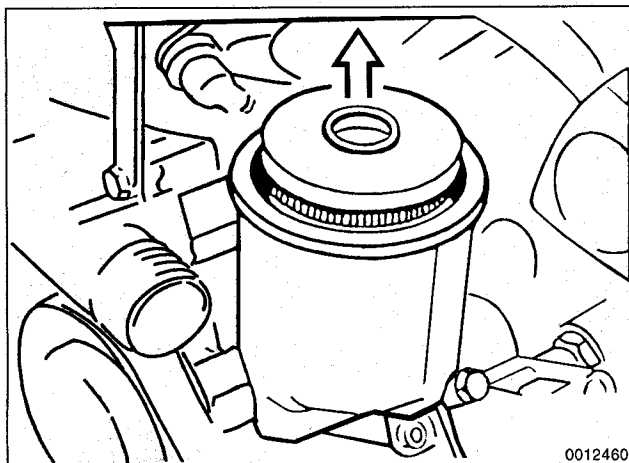

Fig. 6. Engine oil filter cartridge. Note O-ring locations when removing cover and filter.
3. Remove filter housing cover. Remove filter cartridge and discard any O-rings. See Fig. 6.